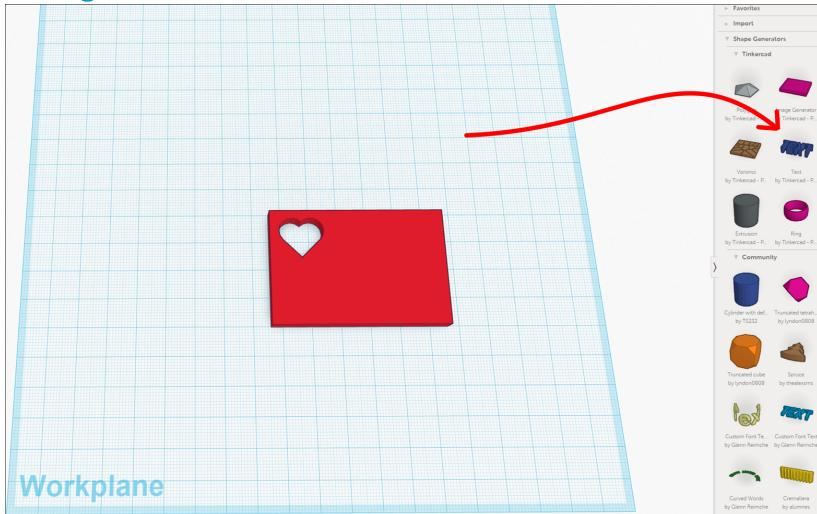

Figure 9-19. Find the Text object tool
1. Go to the Shape Generators to the right of your screen and expand the menu bar to find the “Text” object tool as shown in Figure 9-19.